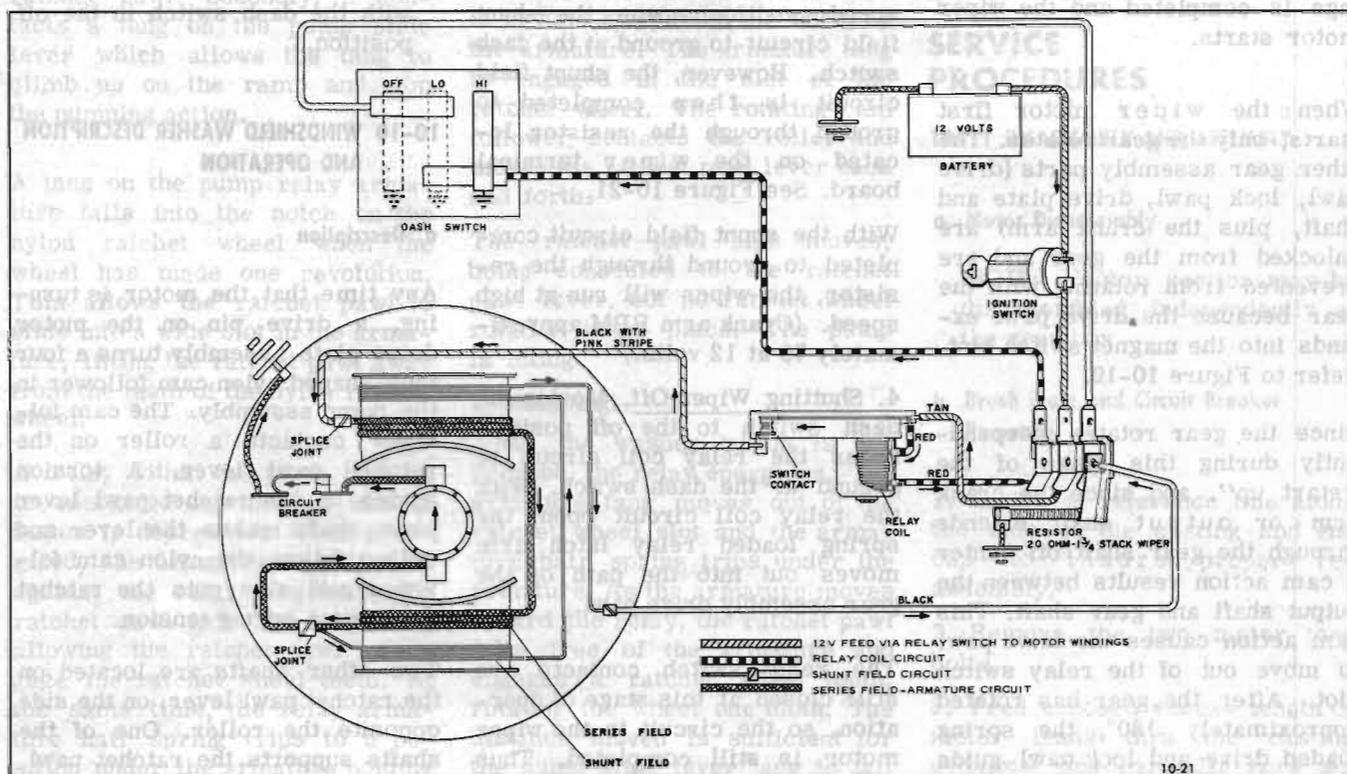

Figure 10-21—Wiring Diagram - High Speed Operation
3. Wiper On High Speed. Turning the wiper dash switch to the high speed position opens the shunt field circuit to ground at the dash switch. However, the shunt field circuit is then completed to ground through the resistor located on the wiper terminal board. See Figure 10-21.